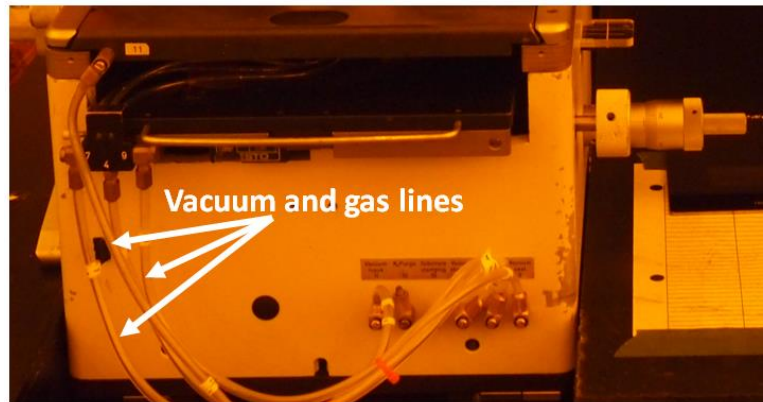

Figure 21 Mask vacuum and pressure lines.
- A common source of the over current error is when the vacuum and gas lines get caught under the alignment stage while it is moving (**Figure 21**).